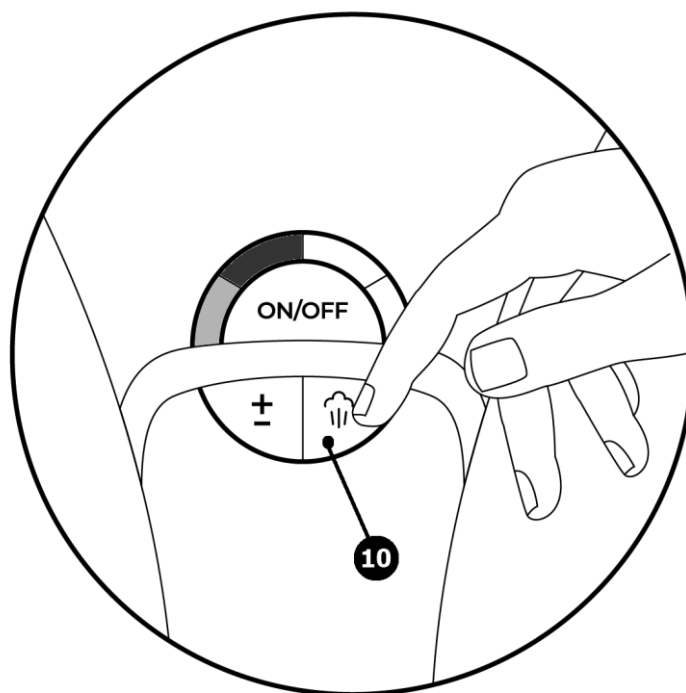

Figure 15 – Pressing the steam button
4. When you have finished steaming the product, press the steam button (10) again (see fig. 15). The steam supply will stop. Place the steamer vertically on a flat, horizontal surface, prepare it for steaming, and steam the next textile.